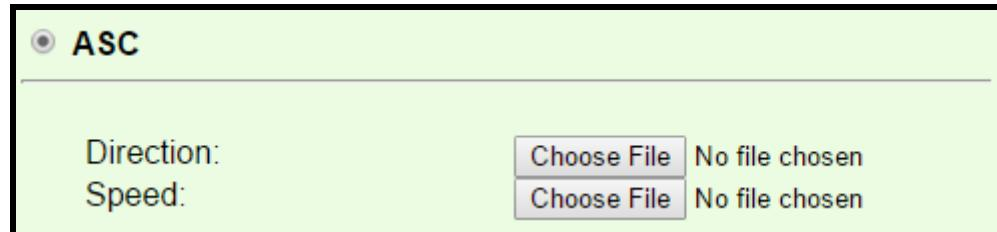

Figure 27 - ASC files as option for setting of wind parameters
- **The third option** is to choose ASC files, as shown in Figure 27. In this case, the user must provide two ASC files, one that holds information about wind speed, and one that holds information about wind direction. Wind speed is expressed in km/h, while wind direction in degrees.